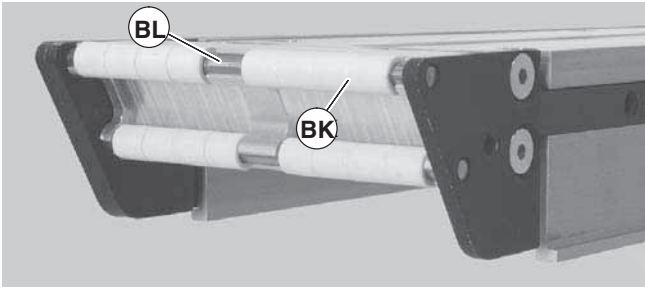

Figure 42
2. On both sides of conveyor, use a 4 mm hex-key wrench to loosen head plate fastening screws (U) to remove belt tension. Then remove belt from end of conveyor.
3. On one side of conveyor, use a 3 mm and 4 mm hex-key wrench to remove head plate fastening screws (BJ & U) and remove head plate (S).
4. Slide bearing rods (Figure 42, item BL) out side of conveyor and replace bearings (BK) as necessary.